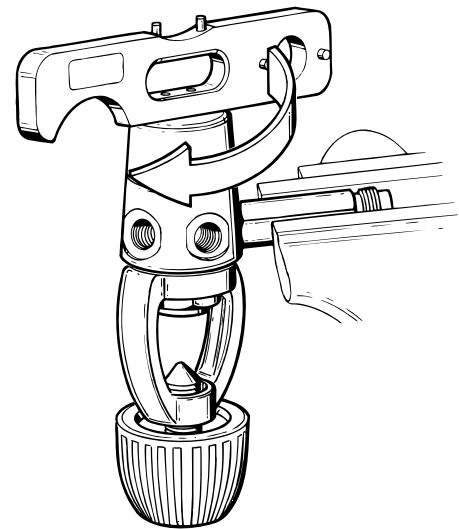

Fig. 8 - Tightening piston cap
14. Apply the No. 3 spanner of a Quad Spanner Wrench (P/N 1077-50), or an Adjustable Face Spanner (P/N 1073-94), to tighten the piston cap clockwise until completely snug (see Fig. 8).